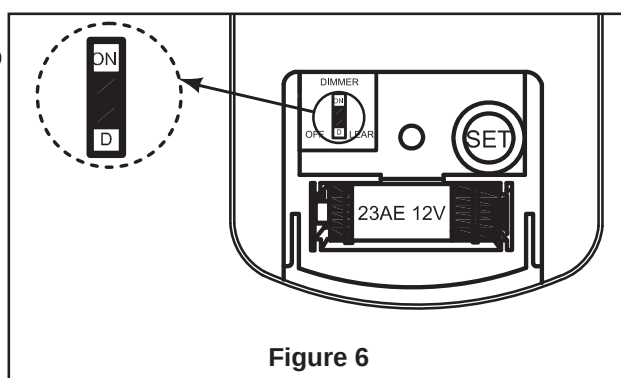

Figure 6
- ☐ 6. Secure glass bowl to light fitter using supplied nut. Next, install trim cover followed by the finial. Do not over tighten. (Figure 6)
The "ON" selection is the light dimmable selection and is to be used with all bulbs other than CFL. The "D" selection is the light on only (no dimming function) and is to be used with CFL bulbs (as CFL bulbs cannot be dimmed). The receiver provides the following protective function: (Figure 6)